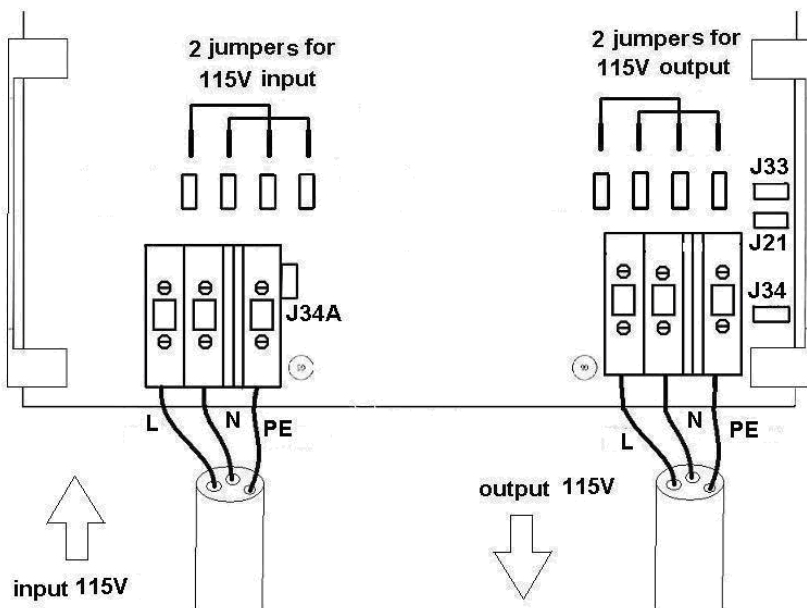

Figure 3: Jumper settings for 115/120 V input and/or output
2.2.3 Other models: for 110/120 V input and/or output, connect the push-on jumpers as shown in fig 3.